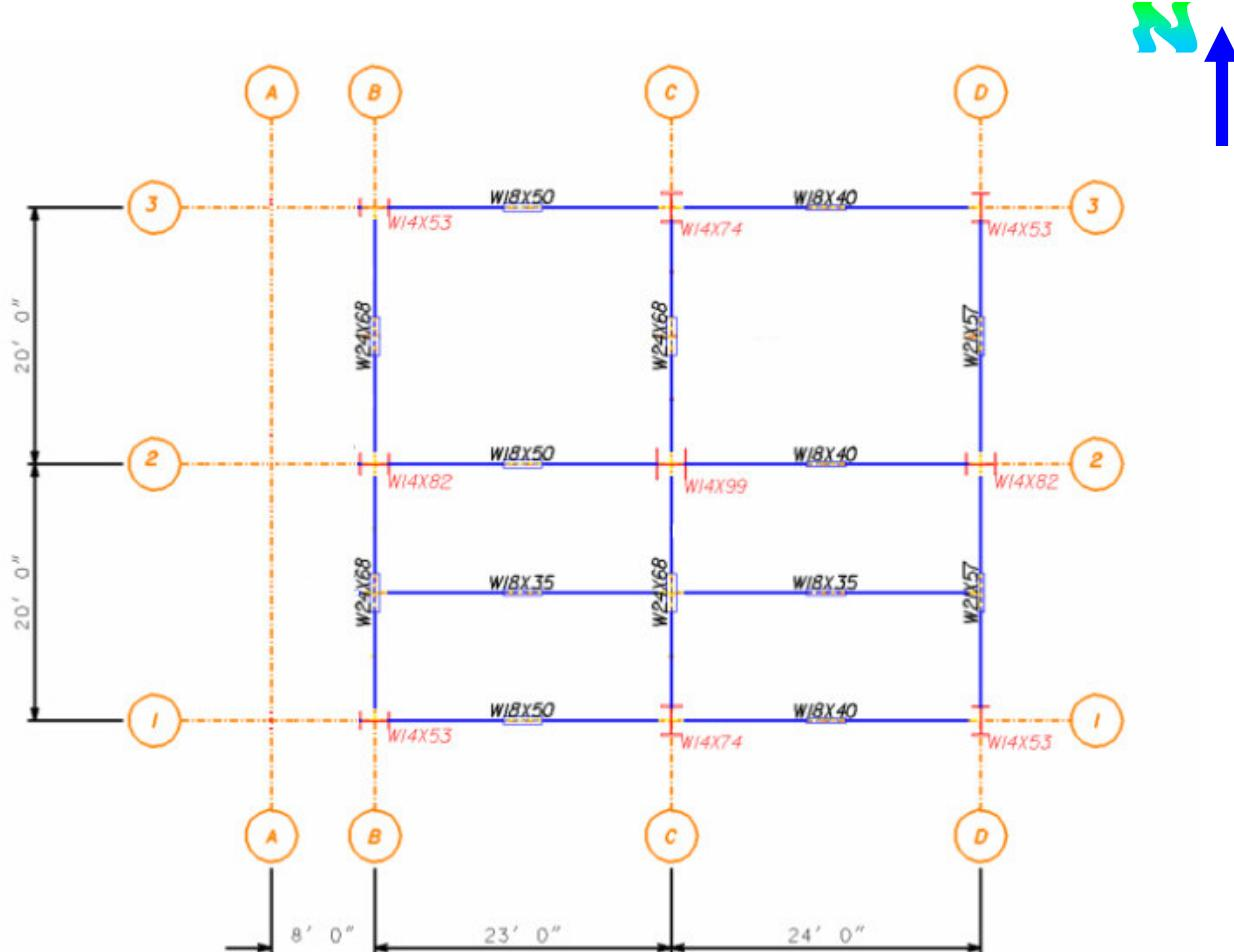

Figure 5 – Second Floor Plan
- 14 Use the Second Floor Plan as shown in Figure 5 to place the structural members at elevation 31'